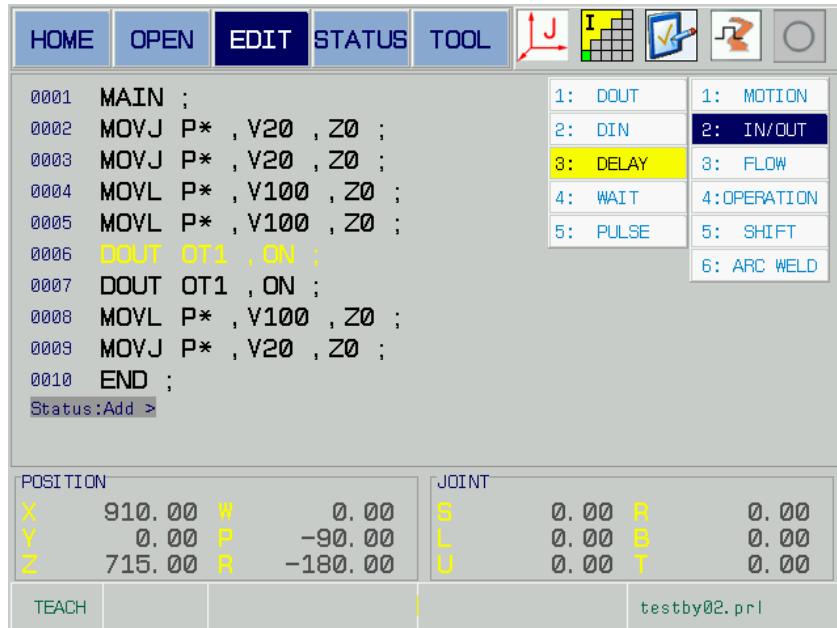

Fig. 5-29
2. Enter the Add mode by [ADD]. Move the cursor matching with the number key 2 or up/down direction button, select the type of the command specified — {2: IN/OUT}. Move the cursor to the subcommand by left/right or [SELECT] button, then select the subcommand — {3: DELAY} by up/down direction button or number key 3; in this case, the system may insert the delay command DELAY by [SELECT]; refer to the Fig. 5-29.